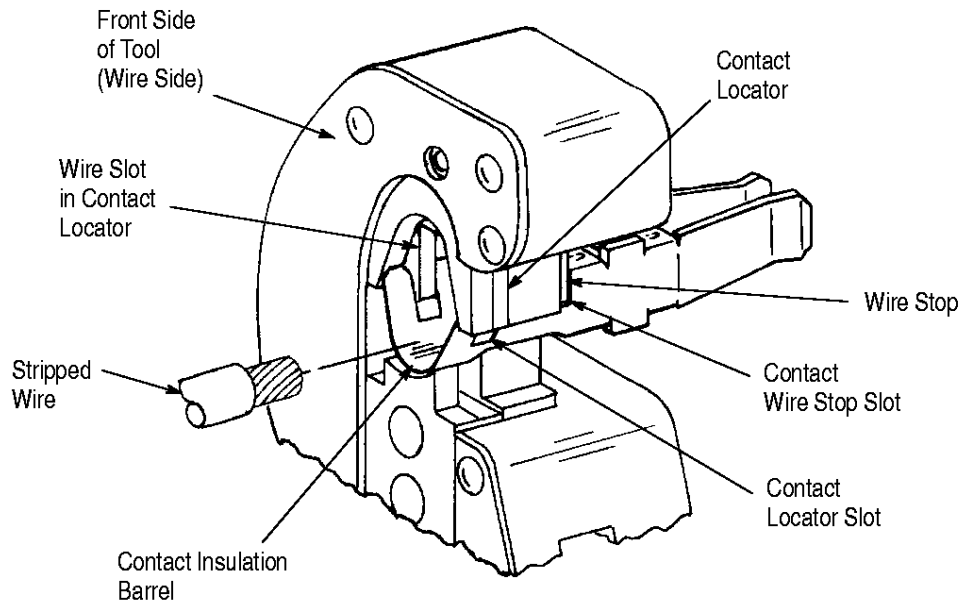

Figure 3
2. Insert the contact insulation barrel into the crimping chamber on the anvil crimping die from the BACK side of tool. Position contact so that the contact locator enters the locator slot in the contact. See Figure 3.
4. Insert stripped wire through wire slot in contact locator and into wire barrel of contact until the wire butts against the wire stop. See Figure 3.